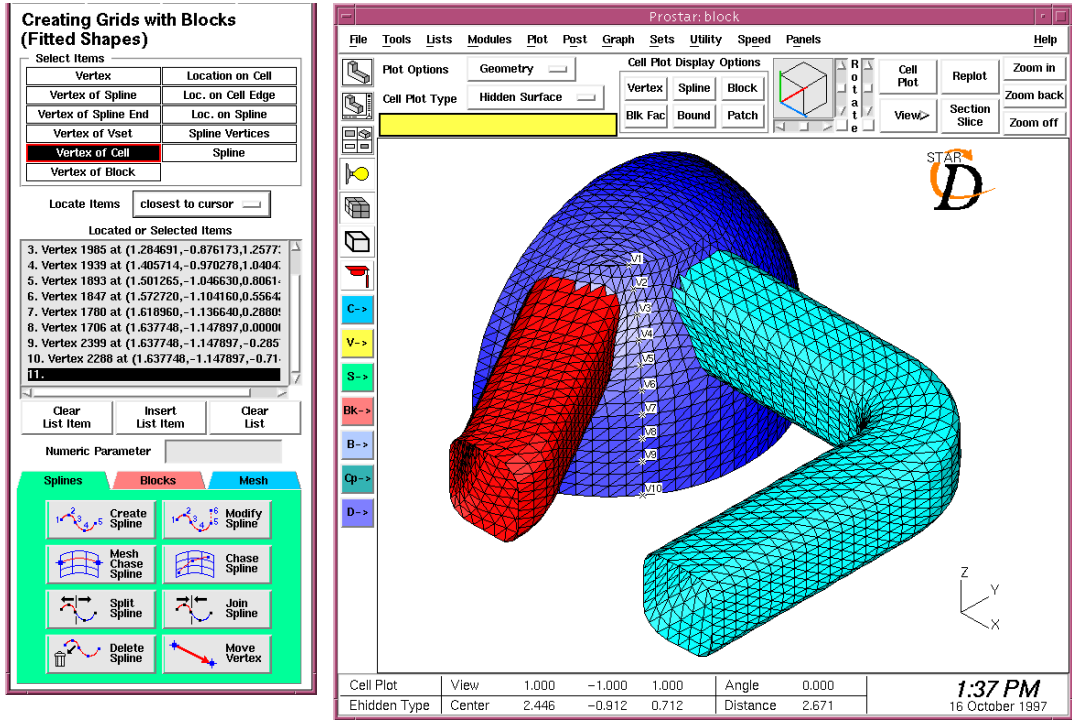

Figure 3-55 Vertices picked for spline
- Move the cursor to the graphics window and mark the appropriate vertices using the left mouse button (see Figure 3-55). A list of these vertices should appear in the *Located or Selected Items* scroll list. To remove one or more of them from the selection, mark the list item(s) with the cursor and remove it with the **Clear List Item** button.